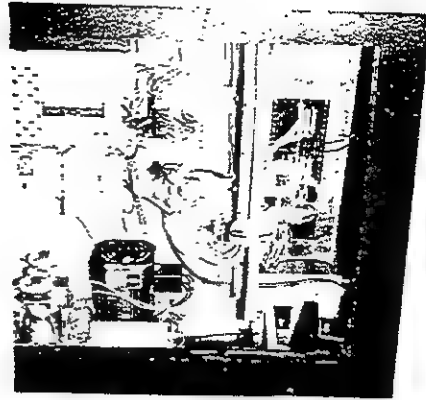

Fig. 23.2
- ① Turn the Main SW of Front Cabi OFF.
- ② Take off the 2 screws and unlock to open the Front Cabi's Maintenance Door. Disconnect wiring connector for the fan to remove the Maintenance Door.
- ③ Disconnect all of the shield case related wiring connectors (Fig. 23.2).